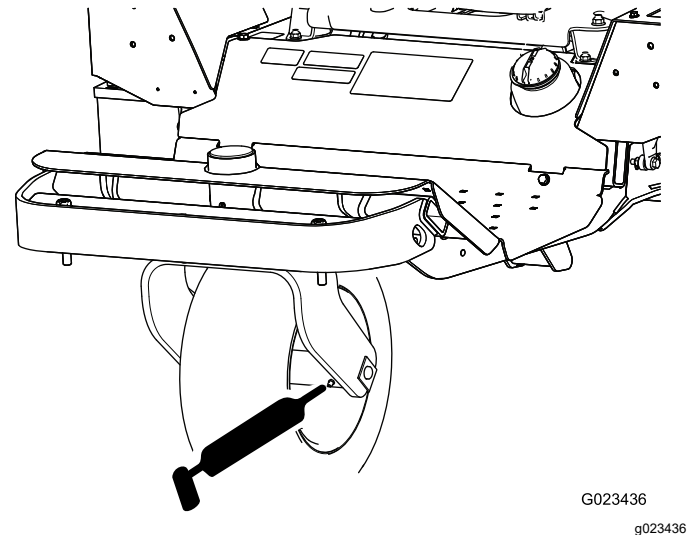

Figure 29
- Front wheel bearing (1)—Figure 29